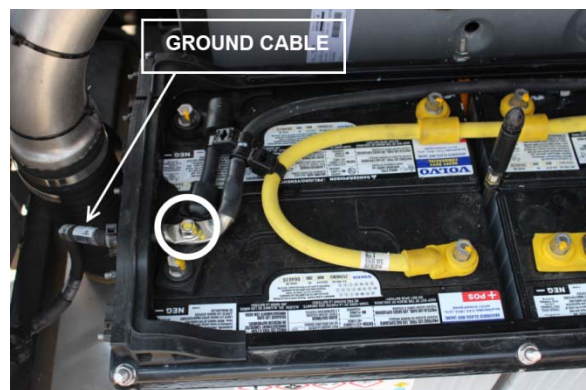

FIGURE 31: DISCONNECT GROUND CABLE FIRST
2. Disconnect the ground cable first (FIGURE 31).